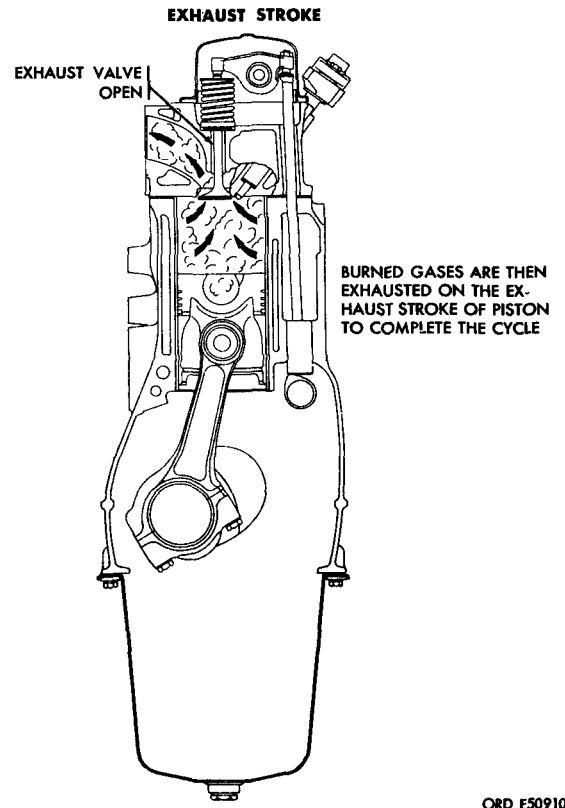

**FIGURE 14. FUEL INJECTION INTO CYLINDER.**
e. Fuel Injector Nozzle and Holder Assemblies. The six fuel injector nozzle and holder assemblies are used to inject fuel into the combustion chambers (fig. 14). The injector nozzle and holder assemblies are sealed against leakage by copper gaskets. The fuel injector nozzle and holder assemblies are interconnected by fuel return tubes to return excess fuel to the fuel tank. The nozzle and holders are adjustable to provide a proper opening pressure and spray pattern for economical engine operation and proper performance.